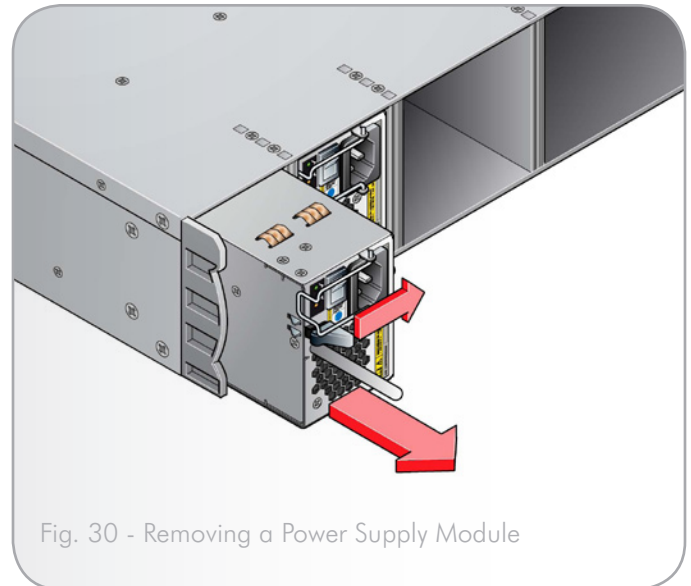

Fig. 30 - Removing a Power Supply Module
3. Push the latch on the PSU handle to the right (*Fig. 30*), then grip the handle and pull the PSU out of the enclosure. take care not to drop and lose the cable retaining spring.